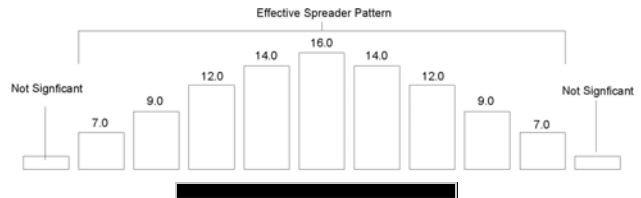

FIGURE 13A, Spread distribution
- The distribution pattern should be balanced as in Figure 13A with a higher amount of product, collected in the center pan and tapering off equally to both sides. *NOTE: The distribution pattern shown in FIGURE 13A represents the ideal pattern, which will not be reproducible in the field. The numbers are used for reference only.*